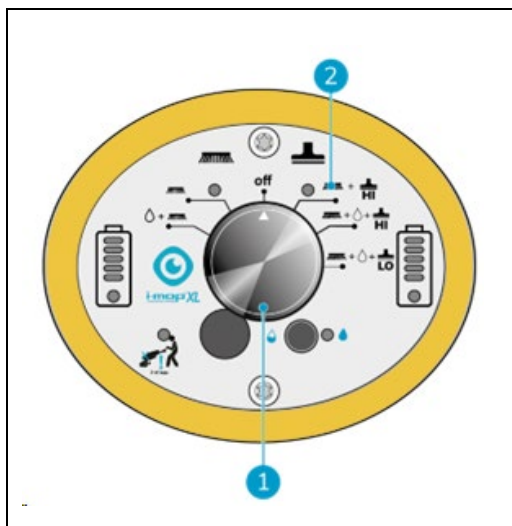

Figure 28
1. Use the i-mop XL Pro main switch (Figure 28, pos. 1) and choose MODE 3 Brush + Dry vacuum (Figure 28, pos. 2).